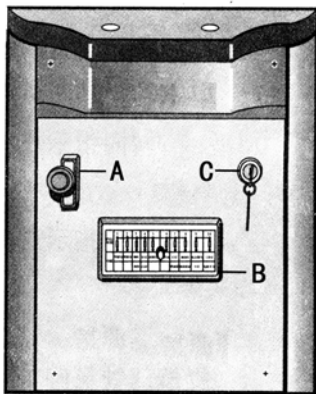

Fig. 4-3 Back fence of instrumentation console
Refer to Fig. 4-3 for the back fence of instrumentation console
- (3) Fuse box “B” : Fuse box has 8 grades. Fig. 4-3 shows their all functions.
(3) Step down main clutch pedal and service brake pedal, throttle down to make engine run without load at idle speed for five minutes. Don't stop the tractor suddenly in case of over-high water temperature.
(4) Pull flame-out wire A (Fig. 4-3), oil injection pump stops oil supply and engine stops at once. Make the wire drawing at locked status, and take down starting key. Cut off general power switch.
(5) After flame-out of the engine, turn key to "ON" to keep parking lights on.